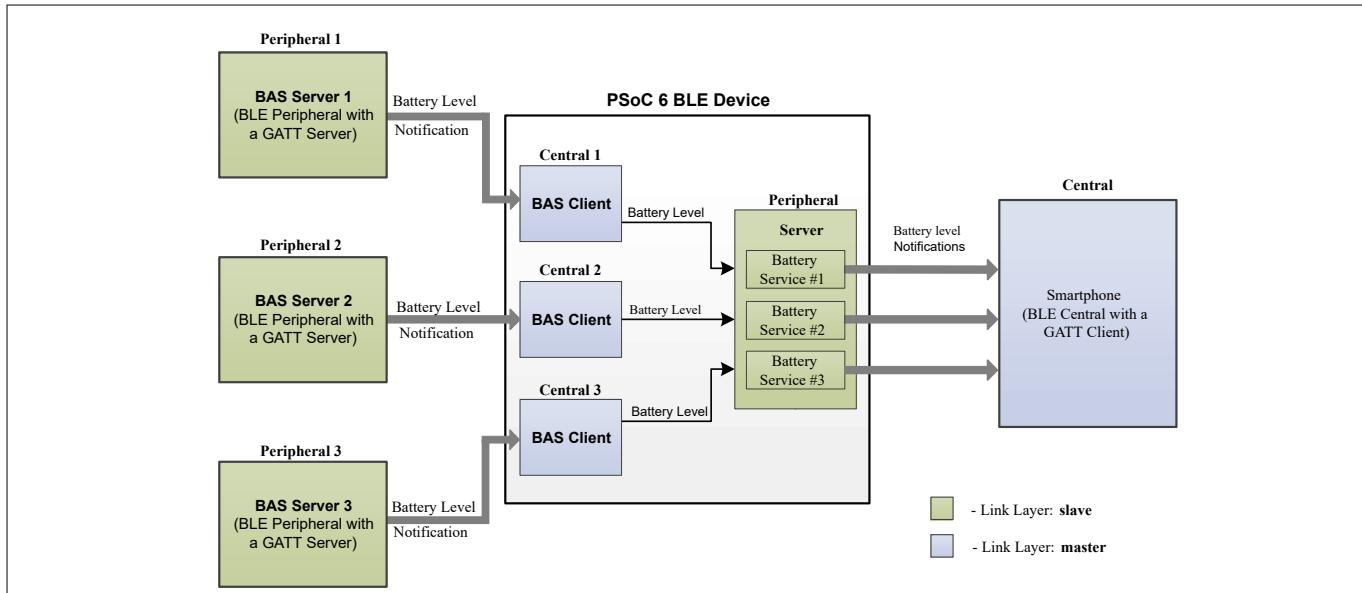

Figure 468 Multi-master single slave
- The peripheral is configured as a GATT server with three battery services. This configuration represents the battery level of the three peripherals that the device is connected to. Figure 468 shows a block diagram of the multi-master single slave example